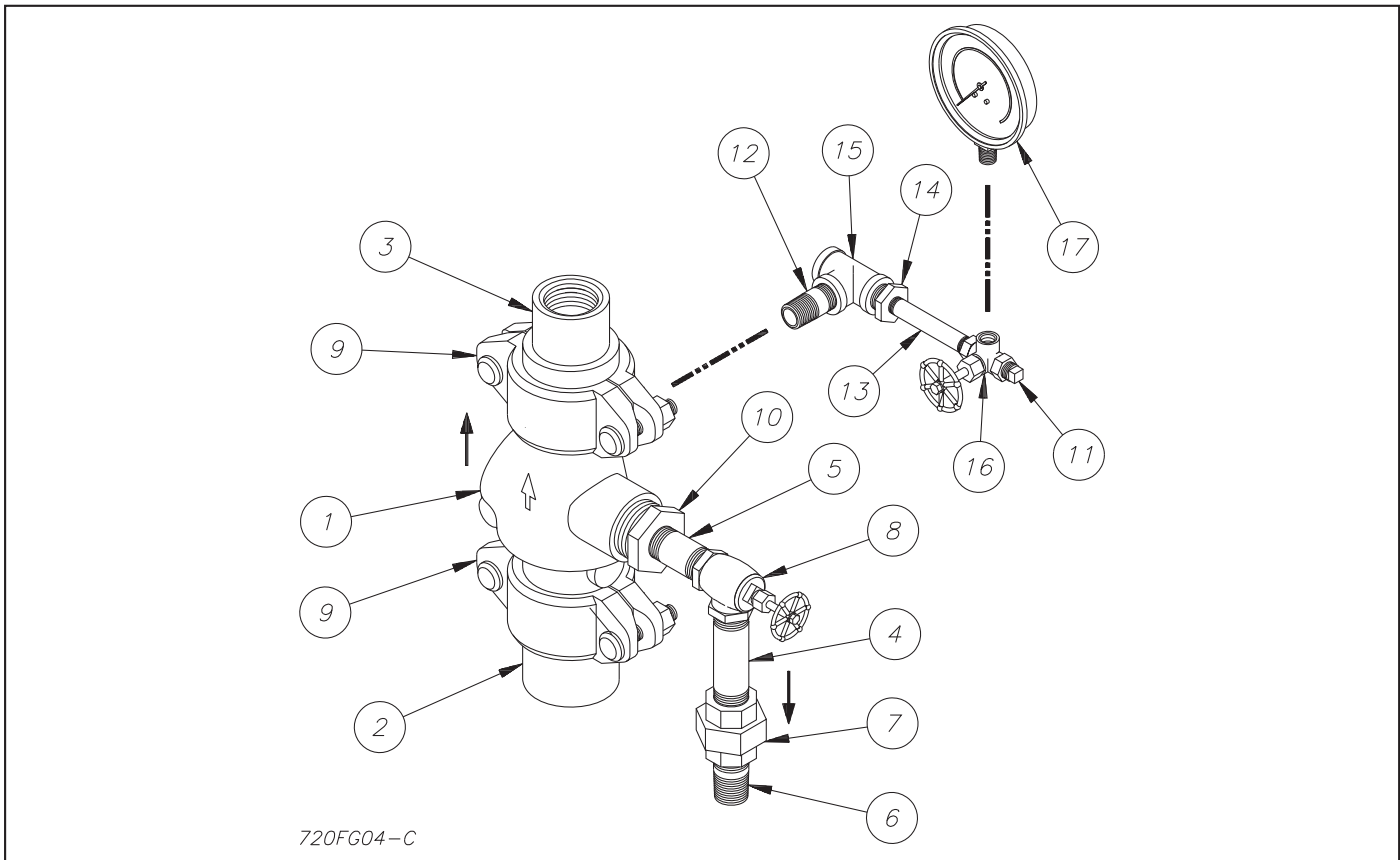

Figure 4 — Preaction Trim Kit
A preaction trim kit is available to provide a bypass drain line and to attach the air or nitrogen supply required to supervise the preaction system. This kit includes a UL Listed Reliable Model G Right Check™ Valve supplied with rigid grooved pipe couplings, as illustrated in Figure 4. To produce a Double Interlock preaction system, the switch/gauge trim kit illustrated in Figure 5 must be added.
2. The Preaction Trim Kit (P/N 6501200112), illustrated in Figure 4, consists of items 1 through 17. The assembly has a convenient arrangement for draining the sprinkler system through the Model H Riser Assembly drain line.